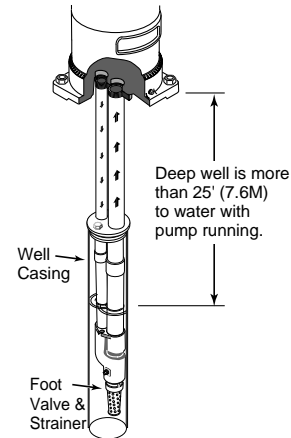

Figure 2 – Match pump to well
8. Match pump to well. Deep well is 25' (7.6M) or more to water with pump running. (Fig. 2)